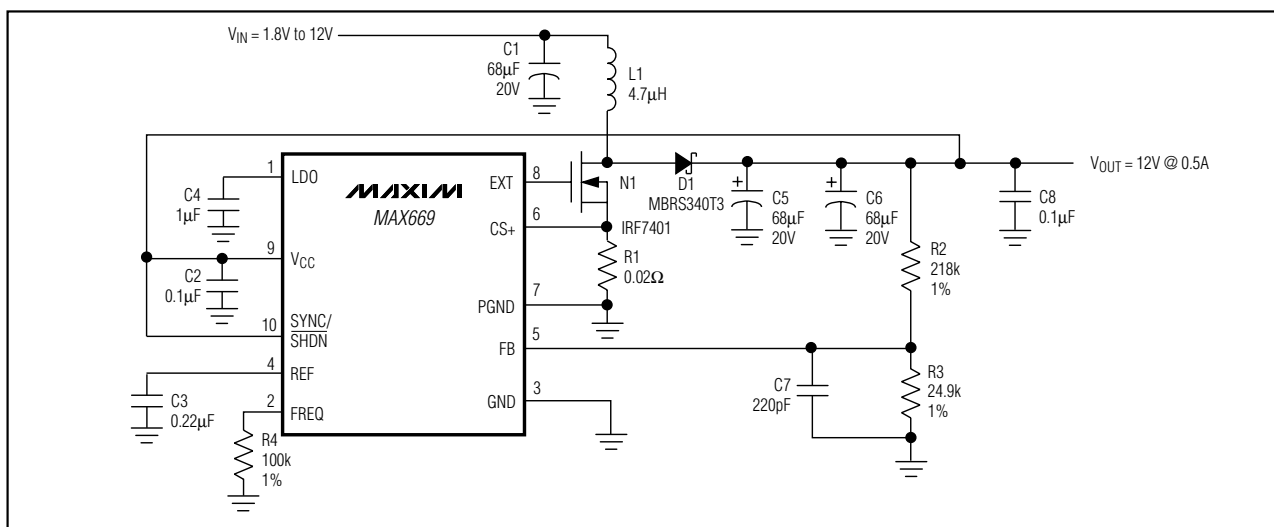
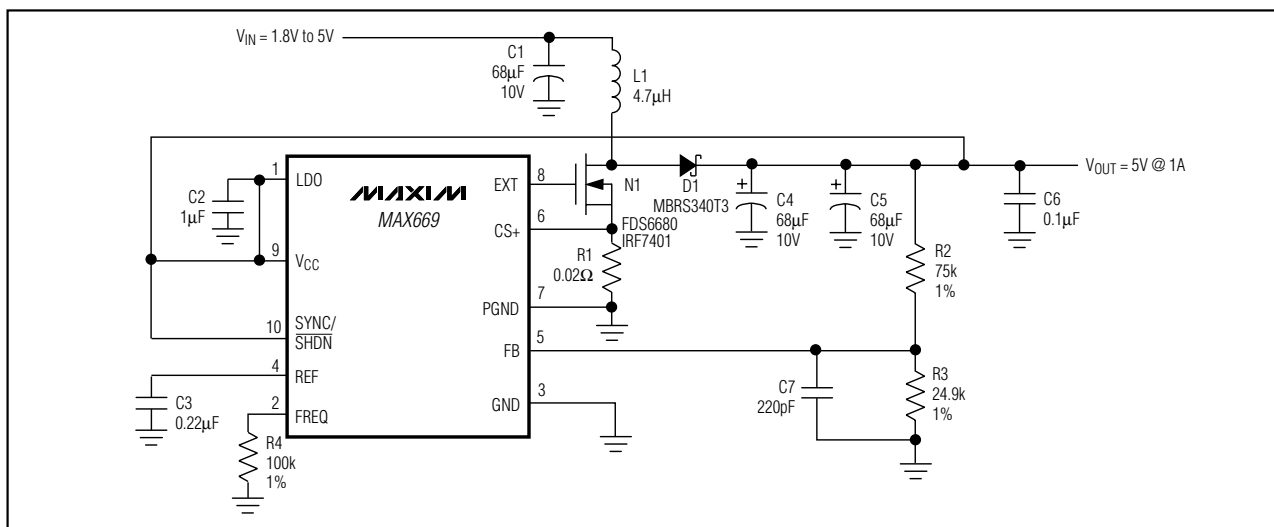

Figure 2. MAX669 High-Voltage Bootstrapped Configuration
Figure 3. MAX669 Low-Voltage Bootstrapped Configuration
(Circuits of Figures 2, 3, 4, and 5; $T_A = +25^\circ\text{C}$; unless otherwise noted.)
V_{CC} and LDO allow a variety of biasing connections to optimize efficiency, circuit quiescent current, and full-load start-up behavior for different input and output voltage ranges. Connections are shown in Figures 2, 3, 4, and 5. The characteristics of each are outlined in Table 1.
With V_{CC} connected to V_{OUT} , as in Figure 2, EXT voltage swing is 5V when V_{CC} is 5.2V or more, and $V_{CC} - 0.2V$ when V_{CC} is less than 5.2V. If the output voltage does not exceed 5.5V, the on-chip regulator can be disabled by connecting V_{CC} to LDO (Figure 3). This eliminates the LDO forward drop and supplies maximum gate drive to the external FET.
* For standard step-up DC-DC circuits (as in Figures 2, 3, 4, and 5), regulation cannot be maintained if VIN exceeds VOUT. SEPIC and transformer-based circuits do not have this limitation.
The output voltage is set by two external resistors (R_2 and R_3 , Figures 2, 3, 4, and 5). First select a value for R_3 in the 10k Ω to 1M Ω range. R_2 is then given by: